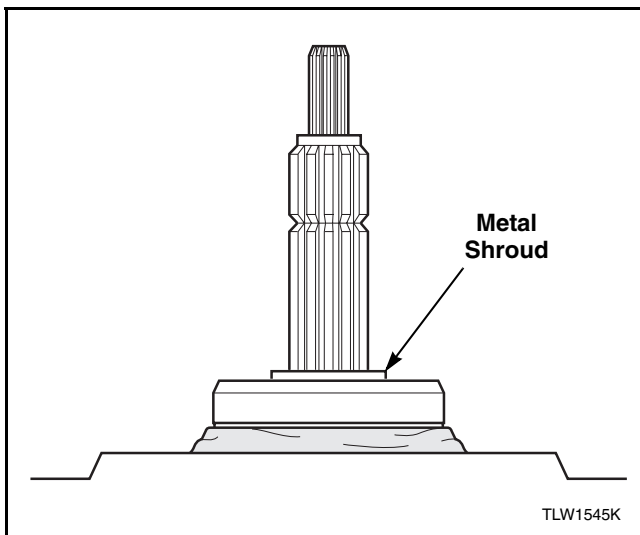

Figure 62
NOTE: The metal shroud of outer lip seal should rise at least 1/16 inch (1.6 mm) above the inner lip seal. Refer to *Figure 62*.
u. Make sure metal shroud still rises above seal. Refer to *Figure 62*. If it doesn't, repeat steps o through s.